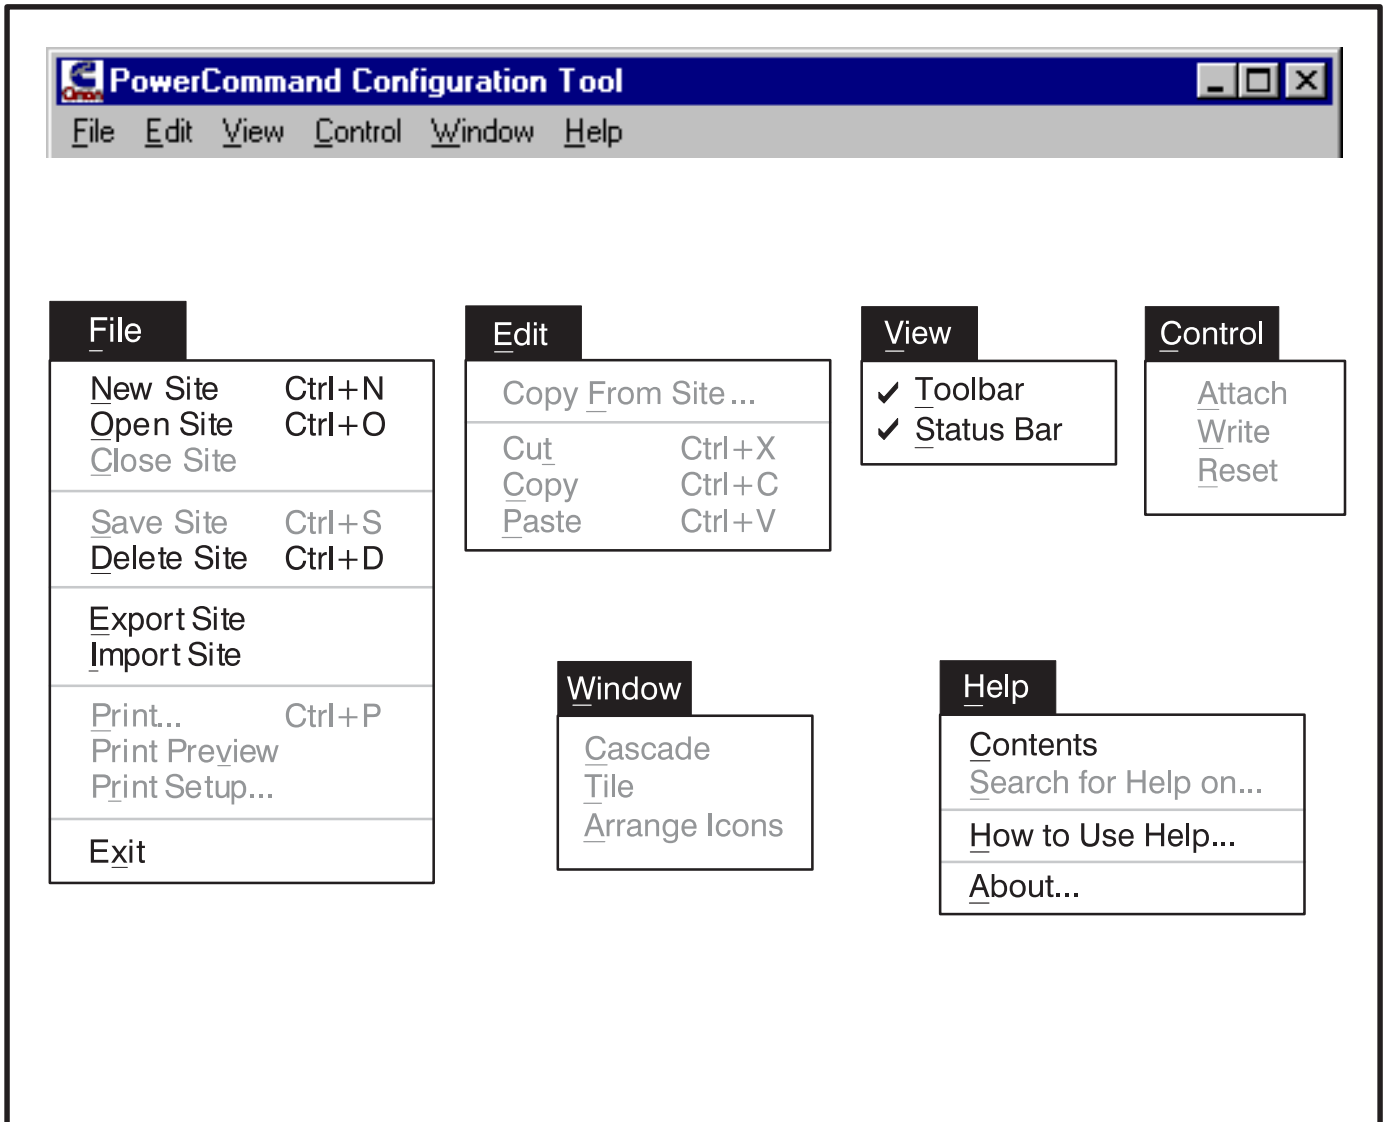

FIGURE 4-3. MENU PULL DOWN LISTS
The *Menu Bar* contains the groups of commands that you will use when running the PowerCommand Configuration Tool. A list of menu options is available under each main menu entry (Figure 4-3).
To display the list of options under a menu entry, move the mouse pointer to the menu name and click the left mouse button (Figure 4-3).
- The underlined letter indicates the keyboard selection for a given menu option. For an example, refer to the File Menu in Figure 4-3.